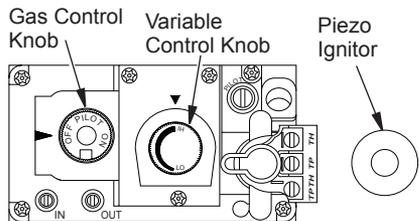

Figure 61 - Control Valve
- Push in gas control knob slightly and turn clockwise to OFF (see Figure 61).
- Wait five (5) minutes to clear out any gas. Then smell for gas, including near the floor. If you smell gas, STOP! Follow "B" in the safety information above. If you don't smell gas go to the next step.